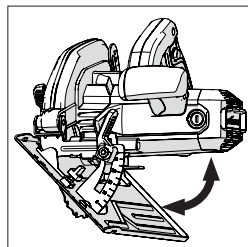

Fig. 14
- Tilt the blade to the required angle as indicated on the quadrant protractor scale. **(Fig. 14)**